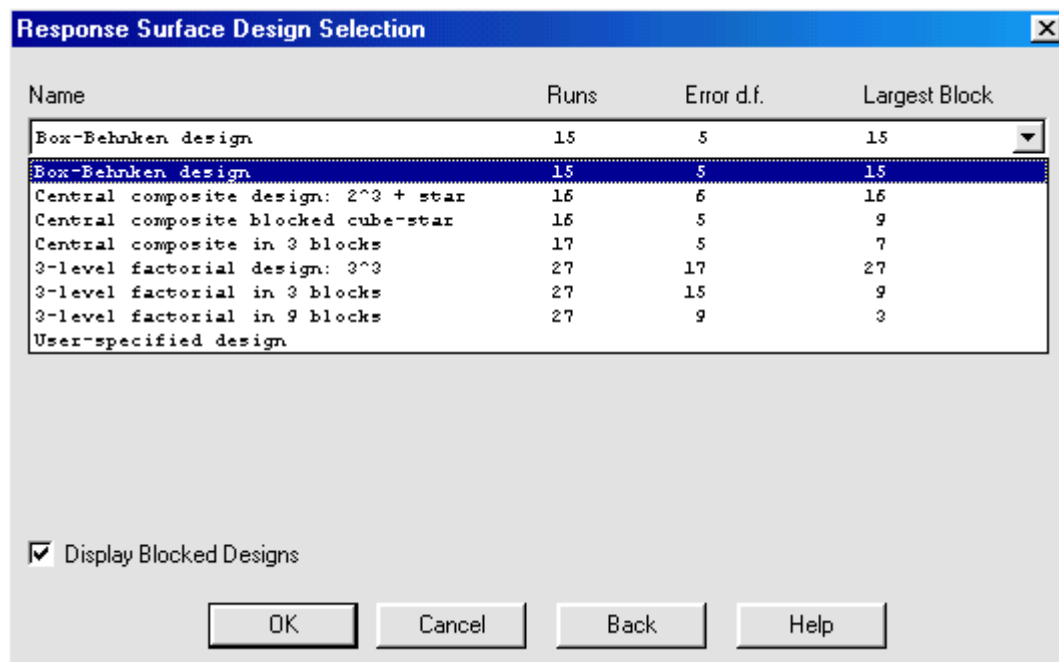

Figure 4-4. Response Surface Design Selection Dialog Box
7. Click OK to display the Response Surface Design Selection dialog box shown in Figure 4-4.